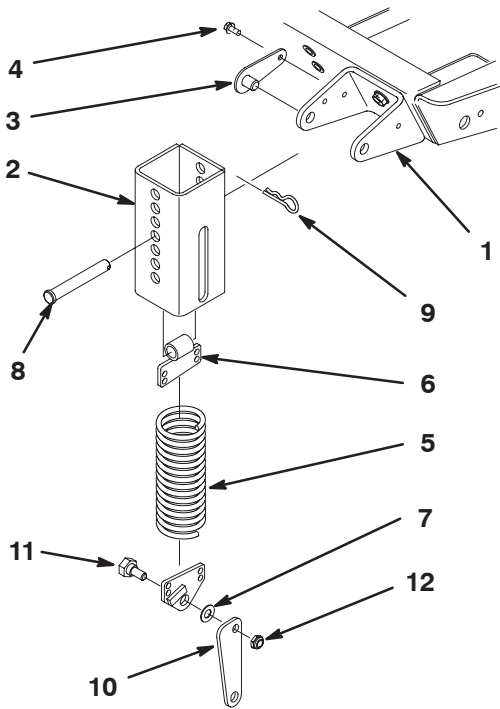
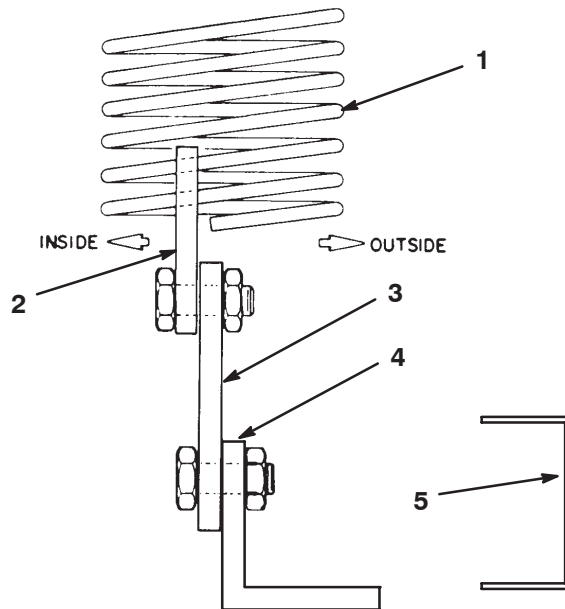

Figure 11
Figure 13
5. Thread the top extension spring coil into the top spring end holes and the bottom extension spring coil into the bottom spring end holes (Fig. 11).
6. Mount the knee link to the lower spring end with the wide part of the knee link pointing forward and the spring end stop pointing forward. Secure the knee link to the outer side of the spring end (Fig. 13) with a shoulder bolt and locknut (Fig. 11 and 12).
8. Align the slotted holes in the spring cover (slot toward the bottom) with the mounting bracket holes. Insert the lock pin assemblies into the bracket holes and secure each to the bracket with self-tapping screws (Fig. 11). Torque the screws to 20 ft.-lb. (27 N·m).
the selected spring cover holes and insert the clevis pin to secure the spring inside the cover (Fig. 11). Secure the clevis pin with a hairpin cotter.